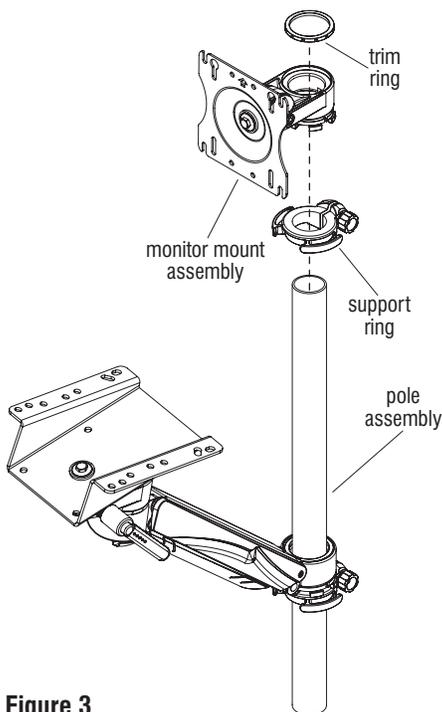

Figure 3
5. Slide the second support ring down the pole at the desired height for the monitor screen. Twist knob on the support ring to secure in place (Figure 3).
6. Place monitor mount assembly down the pole on top of the second support ring, then mount the trim ring on top of the monitor mount assembly (Figure 3).